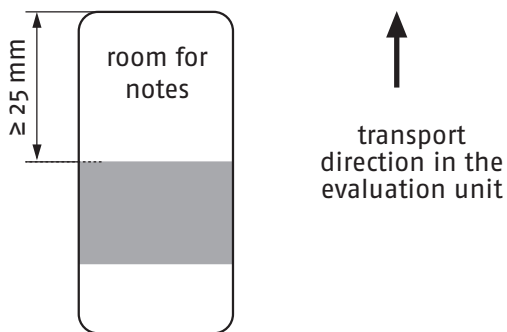

figure 1b: Alignment of the impressions on the measuring strip
- Note relevant data on the strip (see figure 1b) like e. g. date, time, No. of printing unit, cylinder pair, side 1 or side 2.